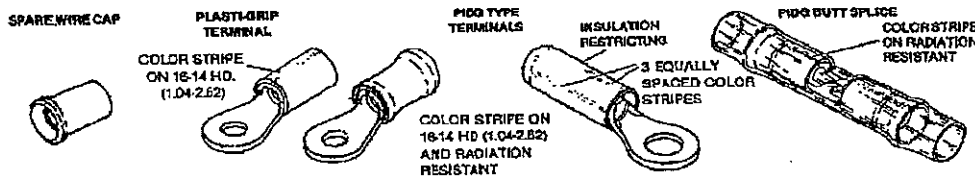

Fig 1
These instructions may be used for tools not listed in Figure 1 but accompanied by this IS. For unlisted tools, use the wire strip dimensions given in Figure 1 for an identical size tool. Tools are coated with preservative to prevent rust and corrosion. Wipe this preservative from tool, particularly from crimping area.
Strip wire to dimensions listed in Figure 1.
- Observe dot code on finished crimp to insure that correct terminal and tool combination was used. See Figure 1.
- Be sure splice insulation colour code matches tool part number. See Figure 1.
- Observe dot code on finished crimp to insure that correct splice and tool combination was used. See Figure 1.
- Strip wire to dimensions listed in Figure 1.